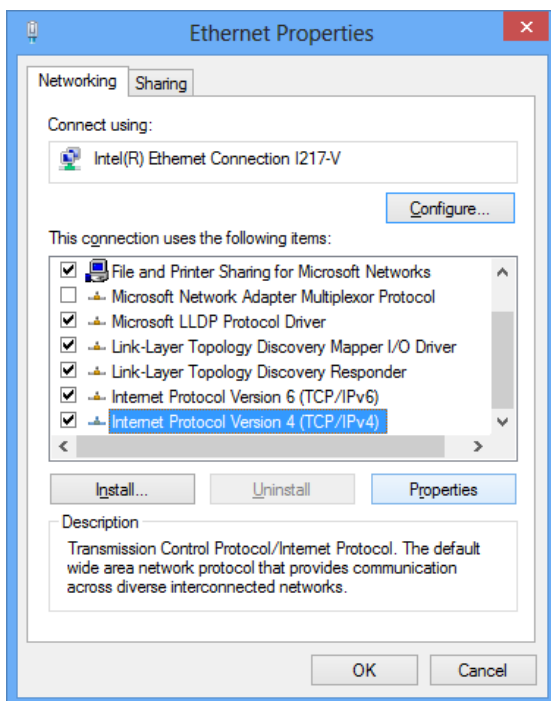

Fig. 10.9: Ethernet Properties window"
- d. Click on "Internet Protocol Version (TPC/IPv4)", and select "Properties" (**Fig. 10.9**).